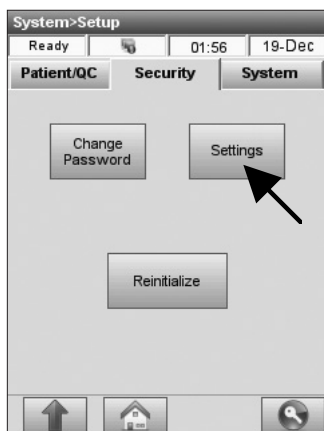

Fig. 3-57 Settings
2. On the **<Security>** tab, press **<Settings>** (Fig. 3-57).